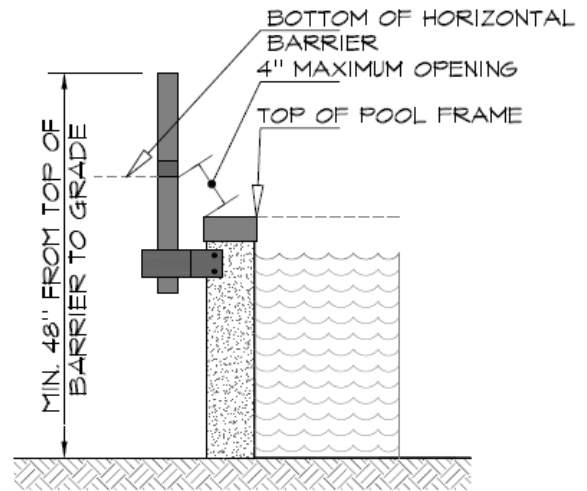

Figure 2
1. The top of the barrier shall be at least 48" above grade, measured on the side of the barrier which faces away from the swimming pool. The maximum vertical clearance between grade and the bottom of the barrier shall be 2 inches for grade surfaces such as grass, mulch, and gravel, and 4" for solid surfaces such as concrete, **See Figure 3**. Where the barrier is mounted on top of the pool structure, the maximum vertical clearance between the top of the pool structure and the bottom of the barrier shall be 4 inches. **See Figure 2**.